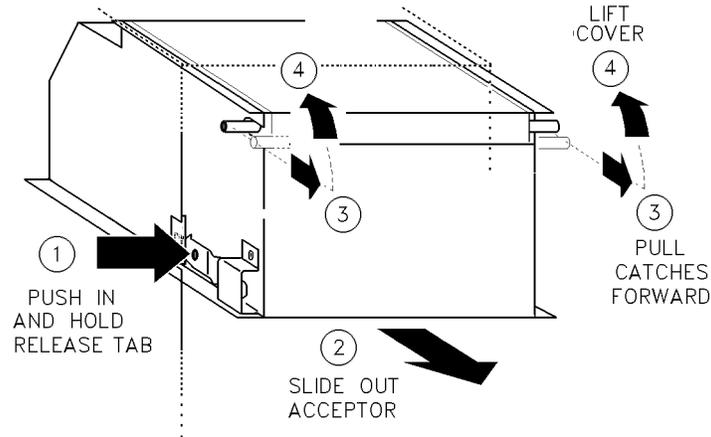

Figure 3-2
1. Locate the spring release tab on the left side of the acceptor (Figure 3-2 Item 1).
To open the acceptor (after acceptor is removed from the chassis): Refer to Figure 3-2